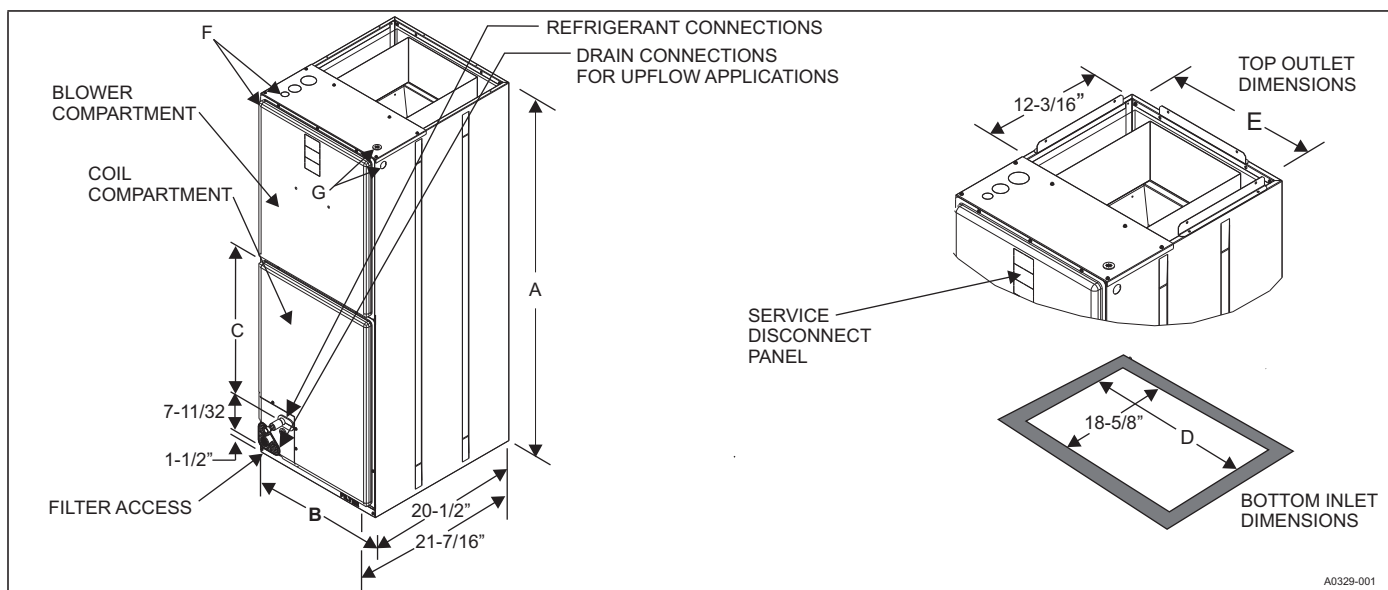

FIGURE 3: Dimensions & Duct Connection Dimensions
6. The unit rating plate displays the air handler model number. The unit dimensions for the supply air plenum are provided in Figure 3 and Table 1 of this Instruction Manual. The plenum must be installed according to the instructions.